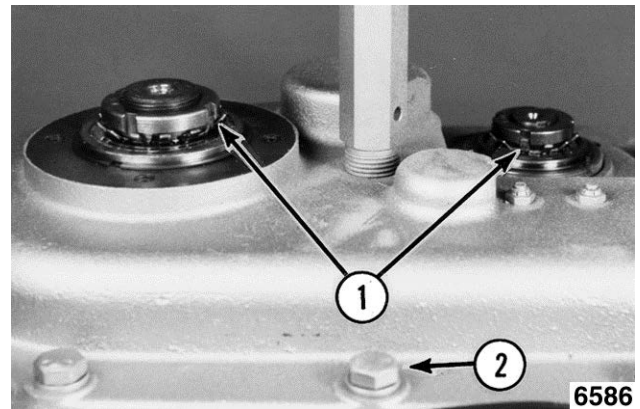

Fig. 41
6. Bend down the tabs on the worm shaft and planetary shaft lock washers [1] Fig. 41. Remove special bearing locknuts and washers.